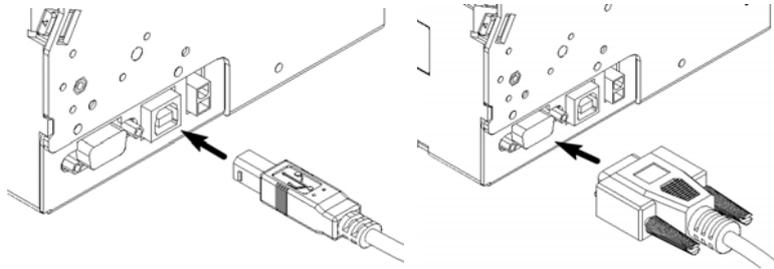

Figure 4.6-1 Connecting interface cable
- 2) Connect the interface cable to the corresponding interface (refer to figure 4.6-1);